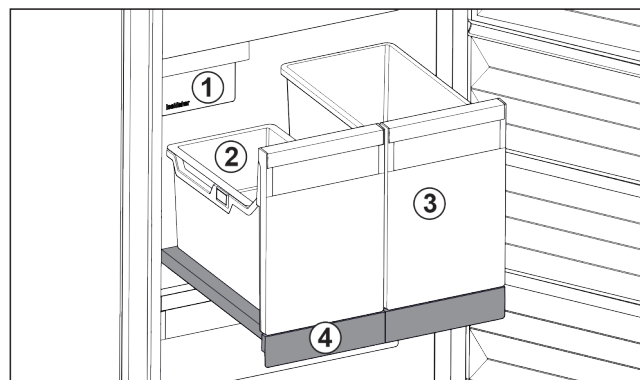

Fig. 31 Pull-out board with IceTower
There are two high (IceTower) containers on the pull-out board. Ice cubes from the IceMaker are collected and stored in the Fig. 31 (2) container. The container Fig. 31 (3) is suitable for storing tall foodstuffs or beverages such as pizzas or alcoholic drinks.